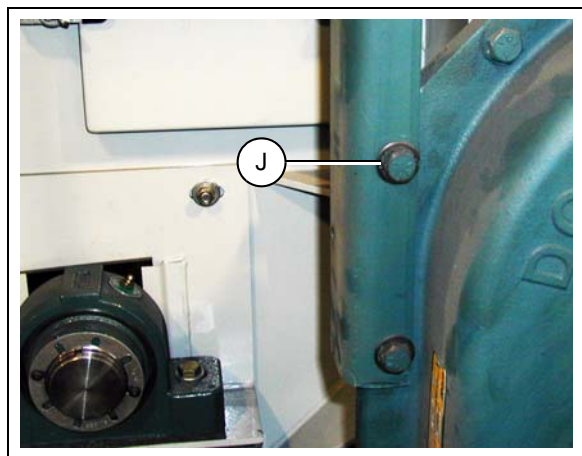

Figure 5I
8. Remove three (3) bolts from each side of the reducer housing. Use a set of holes in the motor mount upright brackets that allows the motor plate to be as close as possible to the top of the conveyor. Check this location by temporarily positioning the belt guard on the reducer with the hole in the guard centered over the reducer input shaft. This will show the correct motor position for the lengths of V-belts provided. Attach by replacing bolts through brackets and housing. Tighten bolts securely. *(See Figure 5I.)*